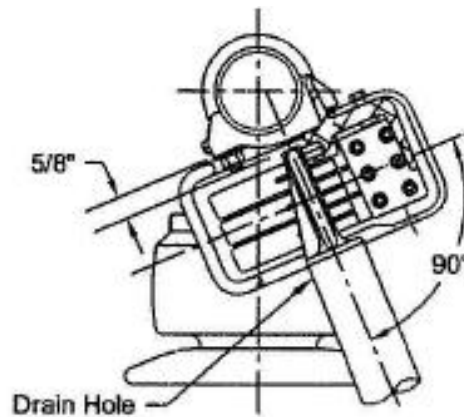

Figure 5: Switch Blade Inserted in Jaw
10. Raise Grounding switch Blade and insert into Jaw Assembly as shown in **Figure 5**.
11. Reset the Blade Tip against the Jaw Assembly Stop. The Blade Tip must fit flat (not cocked) between the contact leaves. Space the top of the Blade Tip approximately 5/8" below the casting - **Figure 5**. Tighten the Blade to the Clamp with "U" bolts.
12. Align Blade Tip and Jaw Contacts as shown in **Figure 5**.